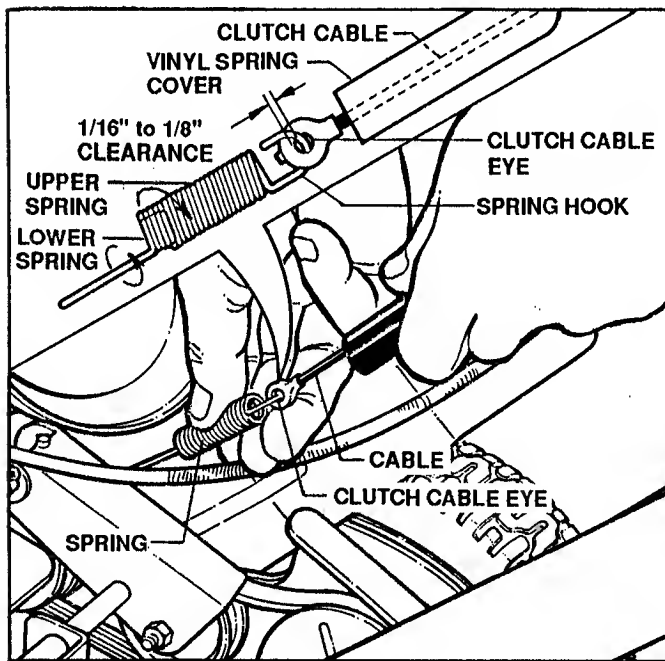

**FIGURE 3.8**
4. Sharpen blade on a grinding wheel at an angle of 22 to 28 degrees. The cutting surface should extend inward about 3 1/2" from the tip. See Figure 3.8.